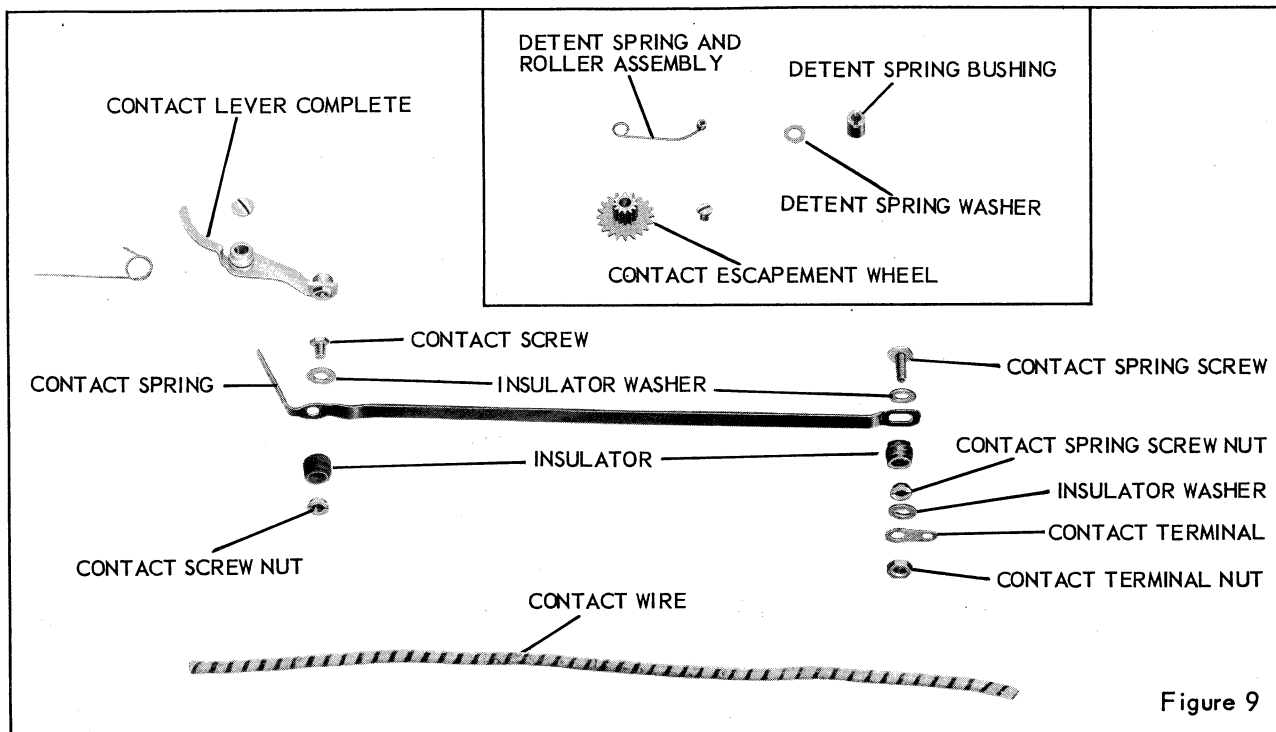

Figure 9
1. CONTACT TERMINAL NUT, figure 9.